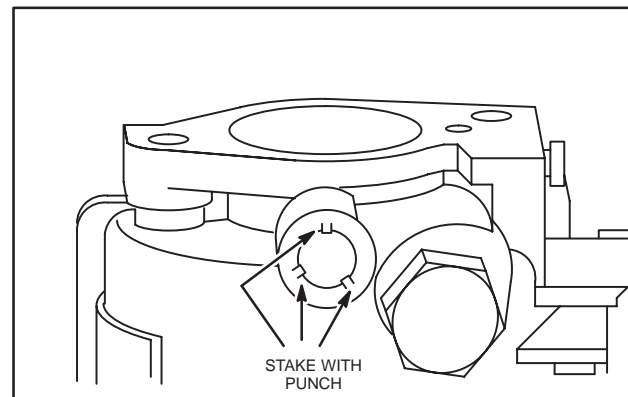

Fig. 18 – Install Plug
5. Stake in three places around plug with 1/8" (3 mm) punch, Fig. 18.